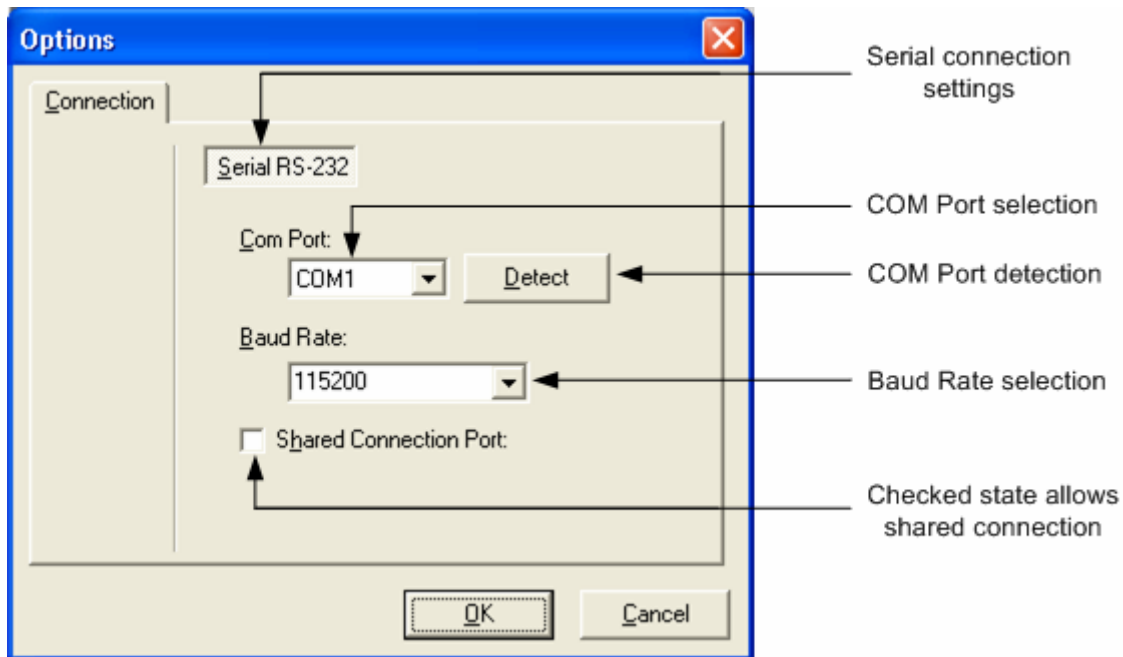

Figure 2-5: Serial Settings
- Click the drop down editor of the COM port and select the port that is connected (see Figure 2-5 on page 10). All detected COM ports of the connected PC are listed. After modifying the serial settings the INIC Explorer Software reconnects according the selected COM port.